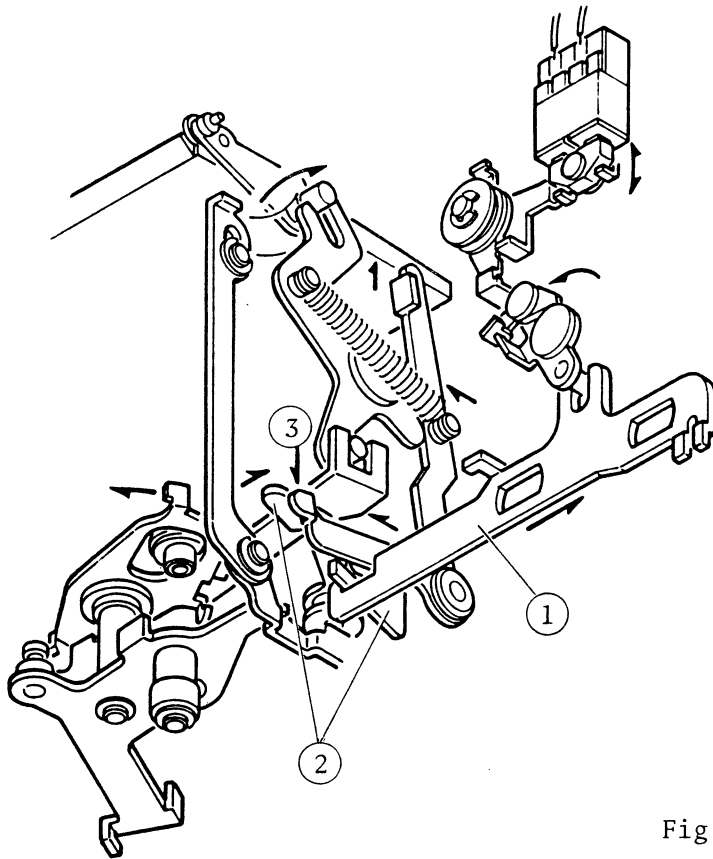

Fig. 29
Continuously the (3) lever hits the 1st shutter blind start latch in the shutter unit (not shown in Fig. 29), so the 1st shutter blind runs.